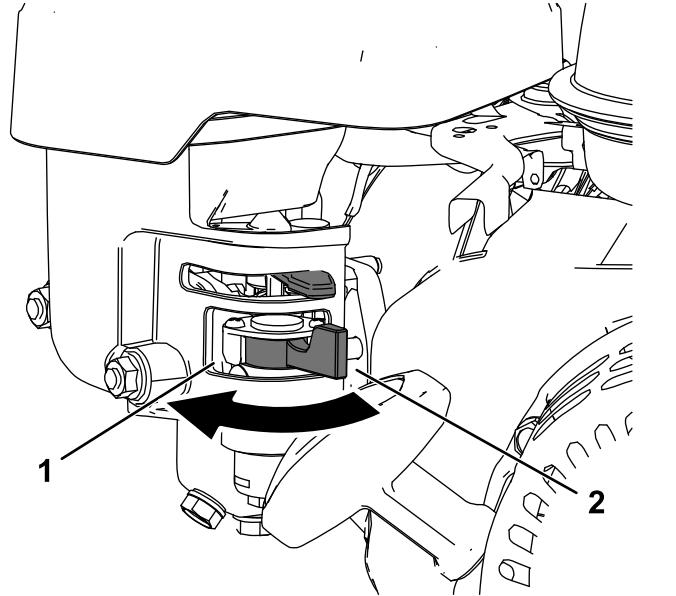

Figure 13
- To open the fuel valve, turn the fuel-shutoff valve handle toward the recoil starter handle (Figure 13).
- To shut the fuel valve, turn the fuel-shutoff valve handle away from the recoil starter handle (Figure 13).